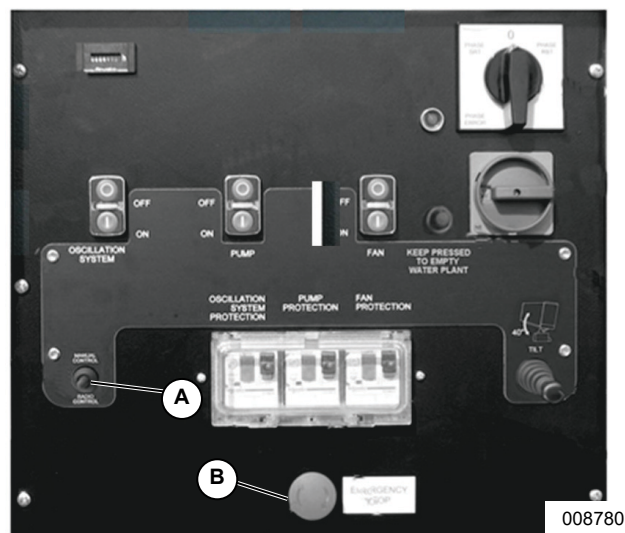

Figure 3-8. Control Panel
1. See **Figure 3-8**. Move control switch (A) to RADIO CONTROL.
2. Verify emergency switch (B) is in the out, armed position. If emergency switch is not armed, twist counterclockwise to reset.